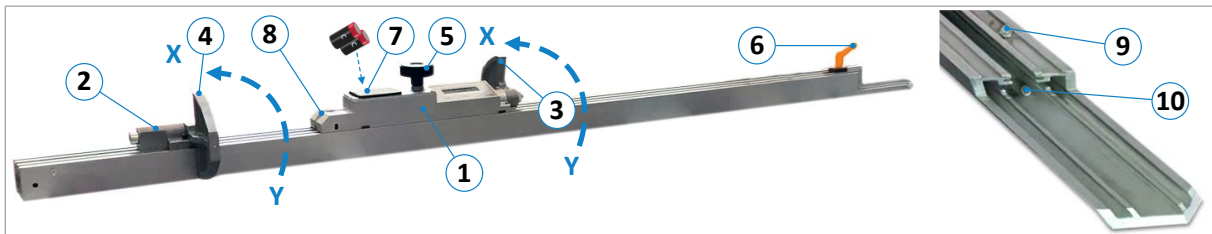

Figure 3: Tele-Digit components
- Move the pull-out (3) all the way to the right against the end stop screw (10) and clamp it with lever (6).
- Move slider (1) all the way to the right against end stop screw (9) and clamp with clamping screw (5).
- Open the battery compartment (7) shown in ⇒ Figure 3 and replace the two batteries.
- Move flip stop (3) to position X for slider (1) (see ⇒ Figure 3)
- Measure the distance between the saw blade and the flip stop (2) to the nearest 0.1 mm.